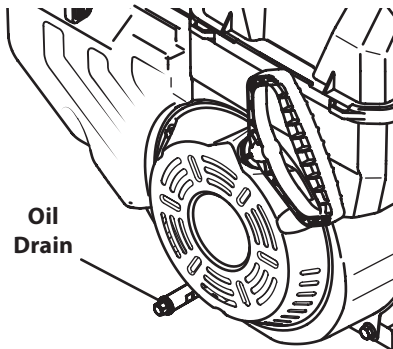

Figure 6-3
6. Remove the Oil drain plug. See "Figure 6-3".
**NOTE:** Depending on which engine model you have, the oil plug may be positioned differently. These positions include on the front and/or rear side of the block, or as an extended tube. Examples are shown in "Figure 6-3".
12. Fill with the recommended Oil. See "Figure 6-3".